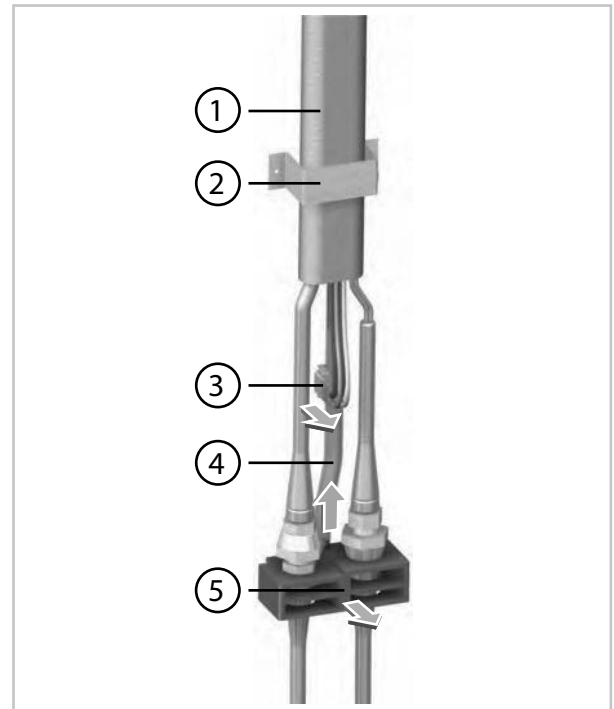

Fig. 13: Dismantling the connecting line
5. ➤ Unscrew the cable strap from the connecting line (Fig. 13).
6. ➤ Push in the side clips on the plugged connection and pull the plug out of the socket (Fig. 13).
7. ➤ Remove the upper section from the bracket by means of unscrewing the two screws (Fig. 13).
8. ➤ Pull off the condensate drainage hose (Fig. 13).